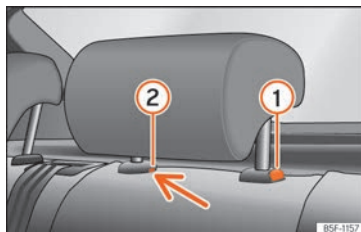

Fig. 121 Rear headrest: removal.
- Press button »» Fig. 121 ①, while simultaneously pressing on the security hole ② with a flat screwdriver a maximum of 5 mm wide, and remove the headrest.